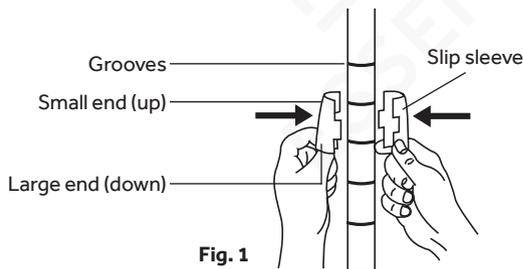

Fig. 1
3. Attach the sleeve to the pole at the required position [Fig. 1].